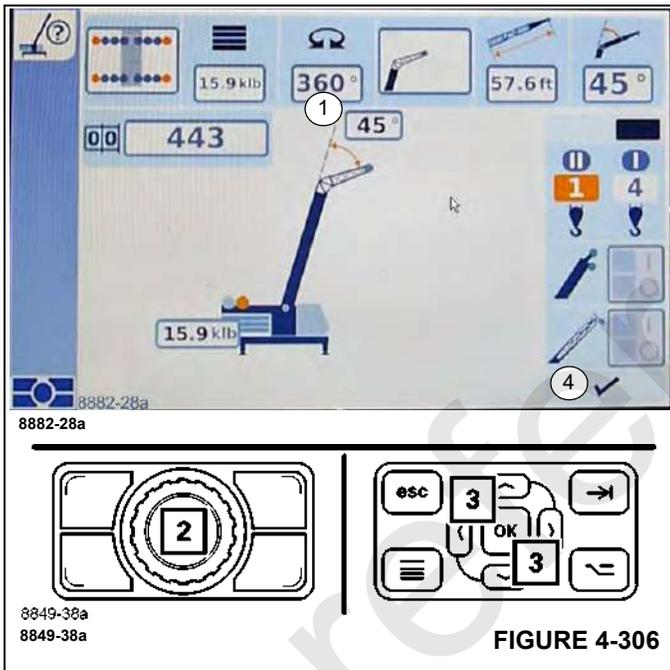

FIGURE 4-306
- Select and confirm the symbol (1), (Figure 4-306).
- Use the buttons (2), (Figure 4-306) or (3), (Figure 4-306) to select the required swing range, e.g. 360°.